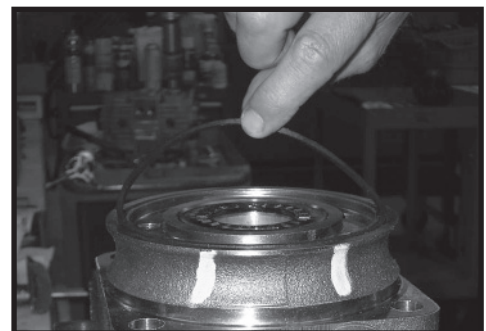

Figure 50
- Apply a small amount of clean grease to a new seal ring (4) and insert it into the housing (18) seal ring groove. SEE FIGURE 50.